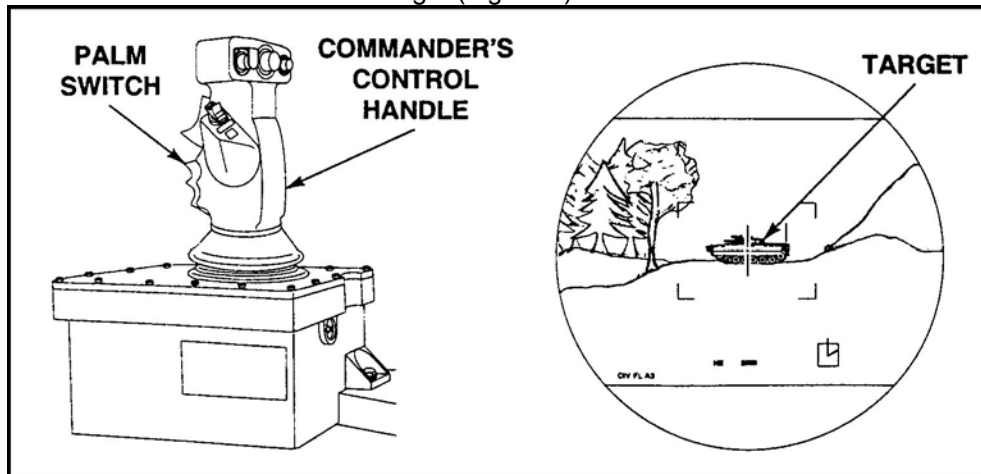

Figure 8. CIV reticle crosshairs.
- a. Center CIV reticle crosshairs on target (Figure 8).